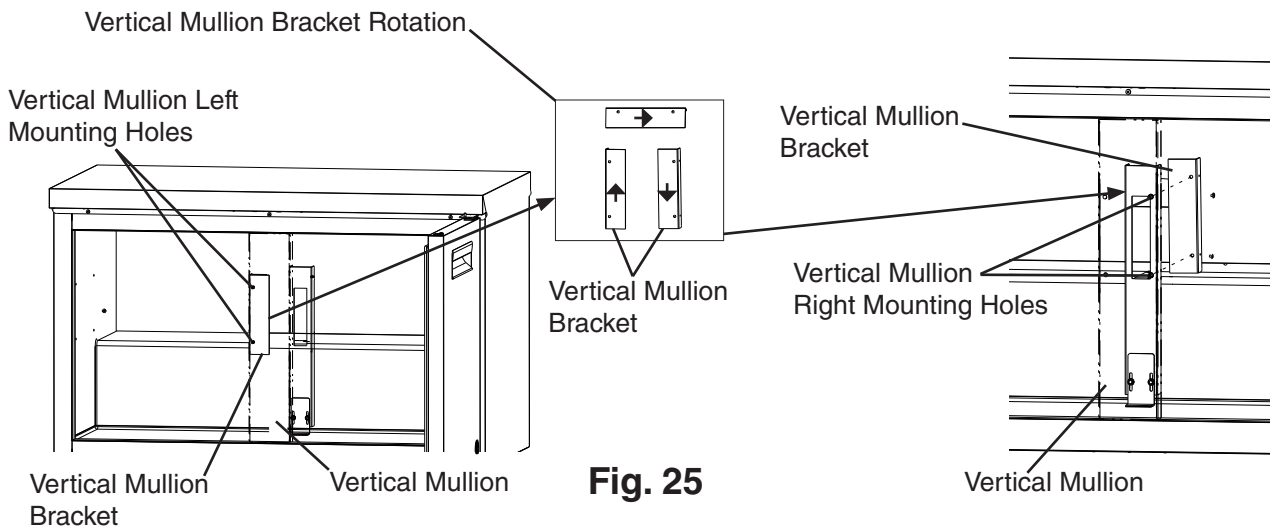

**Fig. 25**
7) Remove the vertical mullion bracket. Rotate 180 degrees and mount it in the vertical mullion right mounting holes. See Fig. 25.